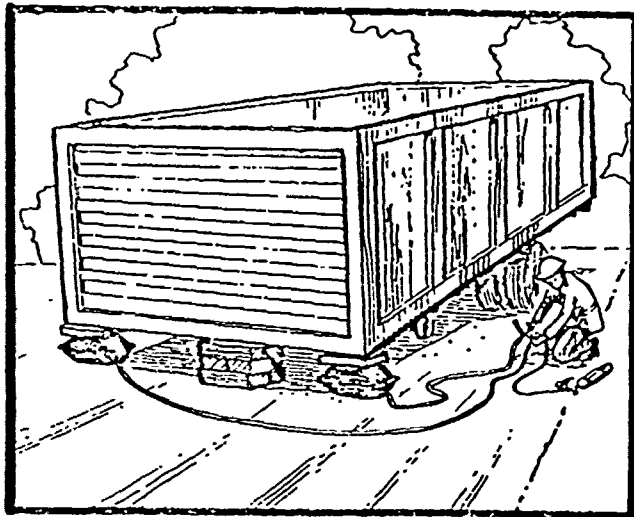

FIG. 20
C. Allows you to lift the same load at two separate points to maximize surface contact (Fig. 20).